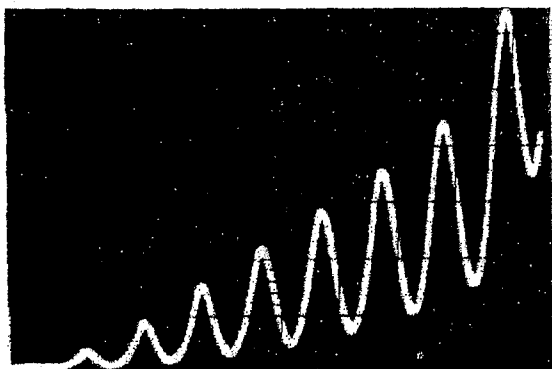

Fig. 2 Oscilloscope image of the Franck-Hertz curve
- By increasing the accelerating voltage to a value of approximately 80 V and slightly changing the other parameters (including the oven temperature if necessary), one can observe the Franck-Hertz curve on the oscilloscope screen, which proceeds from the bottom left to the top right and shows up to 13 pronounced maxima or minima (Fig. 2). The accelerating voltage must not be increased so far that an independent discharge occurs in the tube, since collision ionization disrupts the curve.